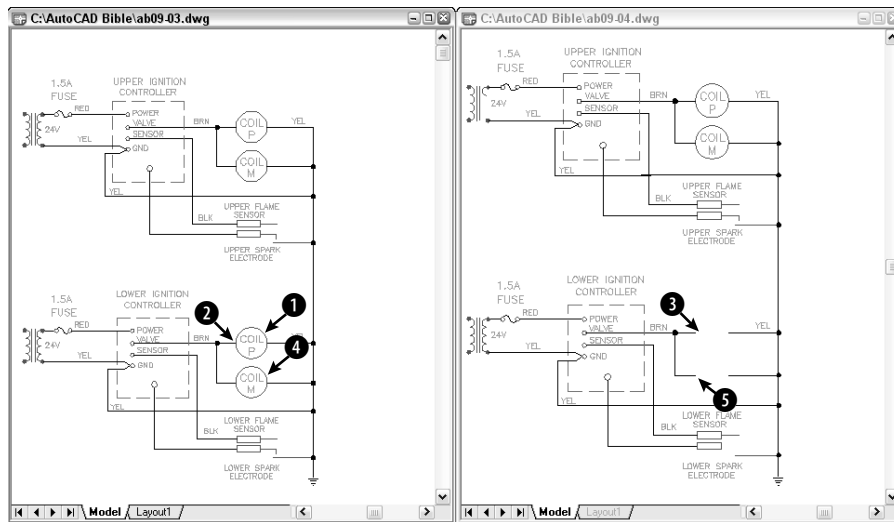

**Figure 9-7:** To copy objects from one drawing to another, display them both on the screen together. (The drawings may appear reversed on your screen.)
2. Choose Window ⇨ Tile Vertically. This displays the drawings side by side, as shown in Figure 9-7.
4. Pick the circle at ❶ and the two lines of text inside it.
6. At the Specify base point: prompt, pick the endpoint at ❷ in Figure 9-7.
7. Click anywhere in `ab09-04.dwg` to make it the current drawing. Right-click and choose Paste from the shortcut menu. At the Specify insertion point: prompt, pick the endpoint at ❸ in Figure 9-7 to paste the objects.
8. Click in `ab09-03.dwg`. Press Esc to clear any grips. Pick the circle at ❹ in Figure 9-7. (Don't include the text this time.) Click again and hold the mouse button on the circle, but not on the grips, until you see the pointer arrow with the rectangle. Drag the circle to ❺ in Figure 9-7. As you can see, you have no way to precisely place the circle.